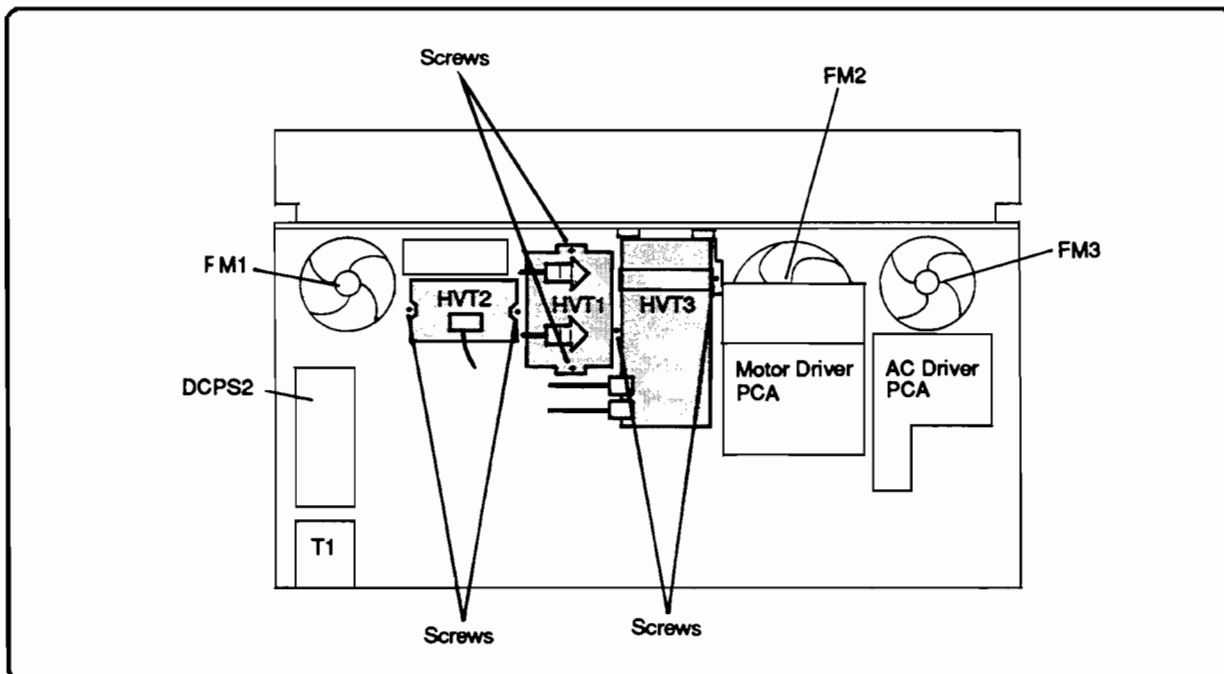

Figure 6-88. HVT PCAs
The printer's high voltage (HV) PCAs are located on the rear of the print engine, behind the print engine rear cover, as shown in Figure 6-88.